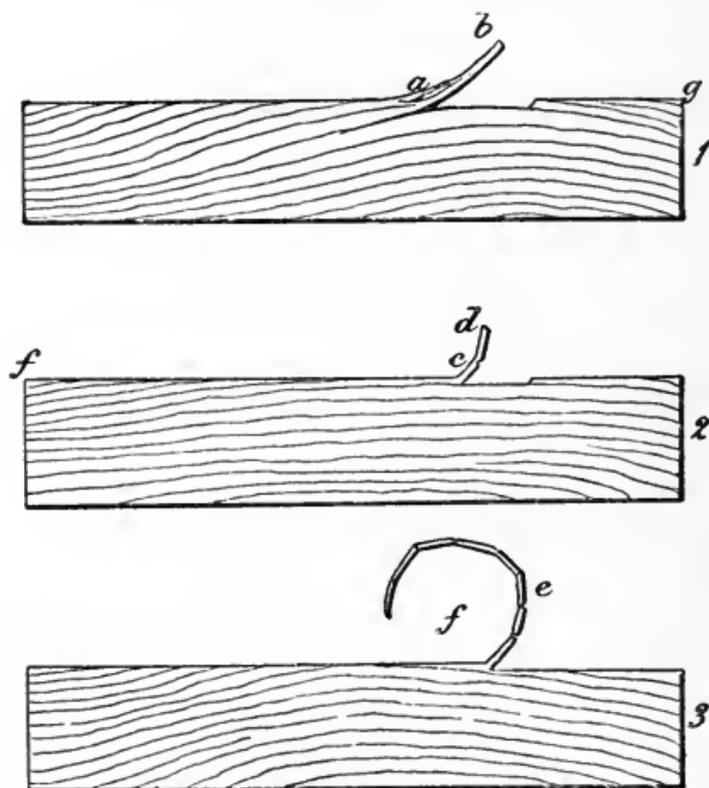

Fig. 25.
With this instrument it is impossible for the end of the shaving to slide far up the iron, and cause a deep split in the wood, because the shaving is caught by the back iron or cap and bent forward. If the cap is thick enough, and set near enough to the edge of the cutting-iron, it will bend the shaving so abruptly as to break it. As long as the shaving was a strong stick or splinter, as at *a b*, Fig. 25, the forward movement of the cutting-iron tended to lift this stick up without breaking it, and extend the split
4. Do not, as a general rule, work "against the grain," that is, in such a direction as from *a* to *g*, Fig. 25, or from *c* to *f* in the same figure. When you work thus, each fiber is torn some little distance down into the wood before it is cut off, and the result is a number of small shallow pits, deeper at one end than at the other, leaving the surface rough, as in Fig. 27, in which the appearance
leaves the surface smooth. As the grain often runs differently in different parts of the piece (as it does, for example, in Fig. 25) it will be necessary, in such cases, to turn the piece from time to time, as you work on different parts. While it is not best in general to work against the grain, it is often allowable, and even preferable, to do so when a considerable thickness of wood is to be removed, as the plane, if not set too coarse, works freer and more rapidly against the grain than with it. In this case also, however, it will be necessary, when nearly the desired amount of wood has been taken off, to turn the piece, and finish with the grain.